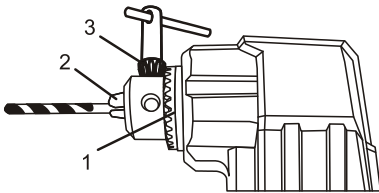

Fig. 4
2. Rotate the chuck collar (1) to open or close the jaws (2) to a point where the opening is slightly larger than the bit size you intend to use (Fig. 4). Raise the front of your drill chuck slightly to prevent the bit from falling out of the chuck jaws.